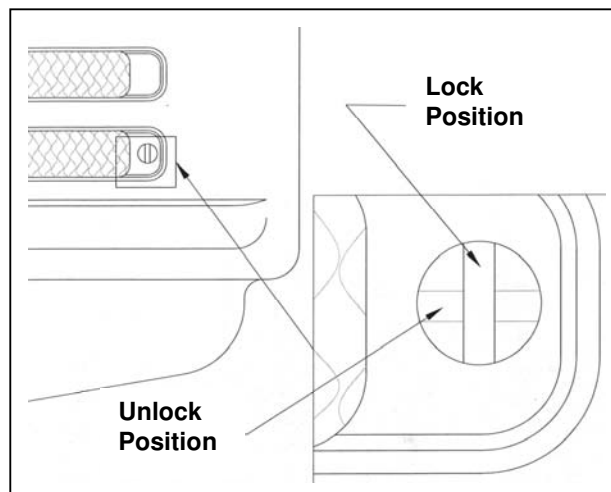

Fig 5 Louvre panel with quad studs
Step 1. Quarter turn the Quad studs (see fig 5)